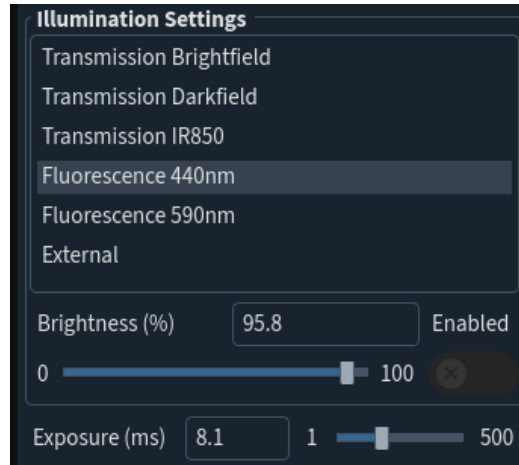

Fig 98: Fluorescent light switch when lights are off.
1. Disable Fluorescence in the GUI by clicking the switch below the Enabled label under the Illumination Settings (Fig 98).